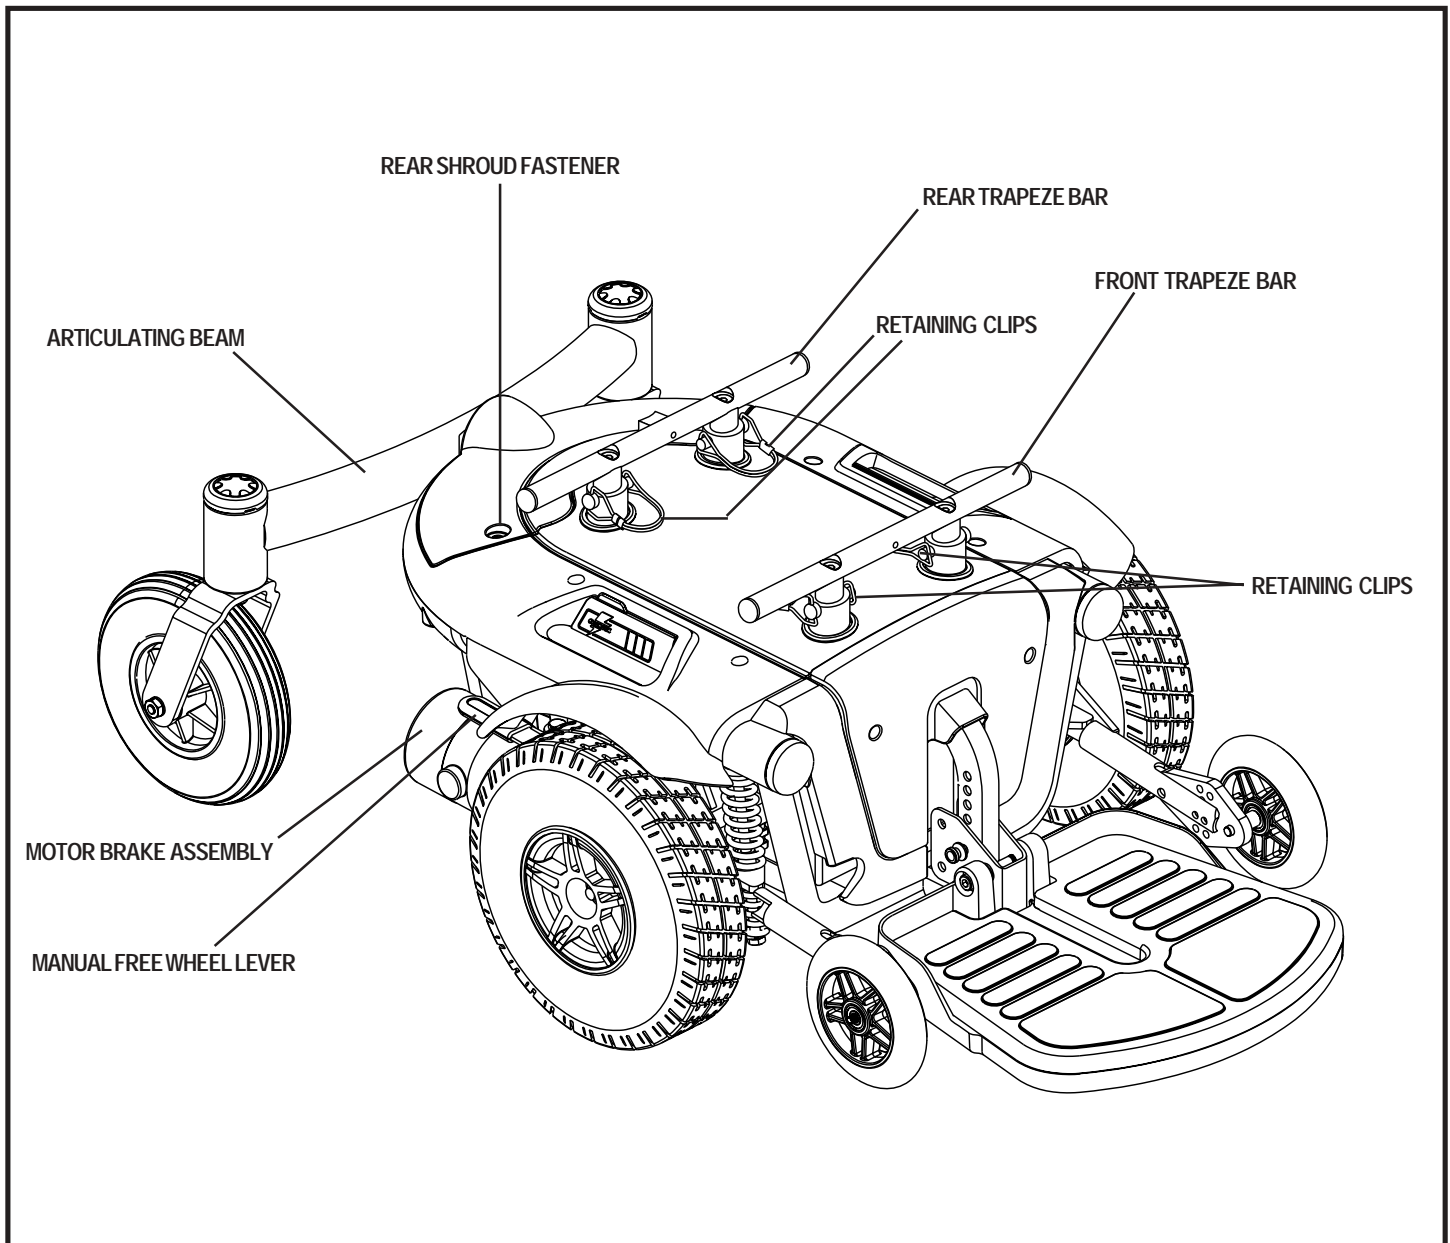

Figure 6. The Quantum 1103 Ultra Series Power Base
2. Loosen the rear shroud fasteners and remove the rear shroud. See figure 6.